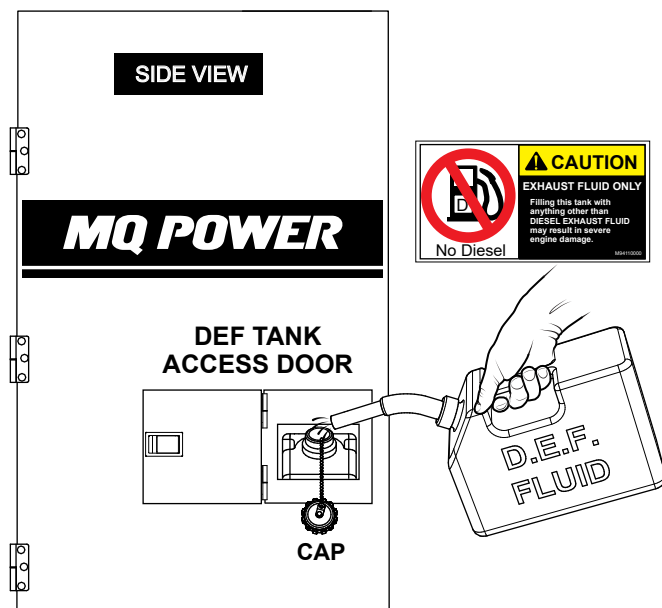

Figure 32. Filling The DEF Tank
2. Open the **DEF tank access door** (Figure 32) and remove the **DEF tank filler cap**.